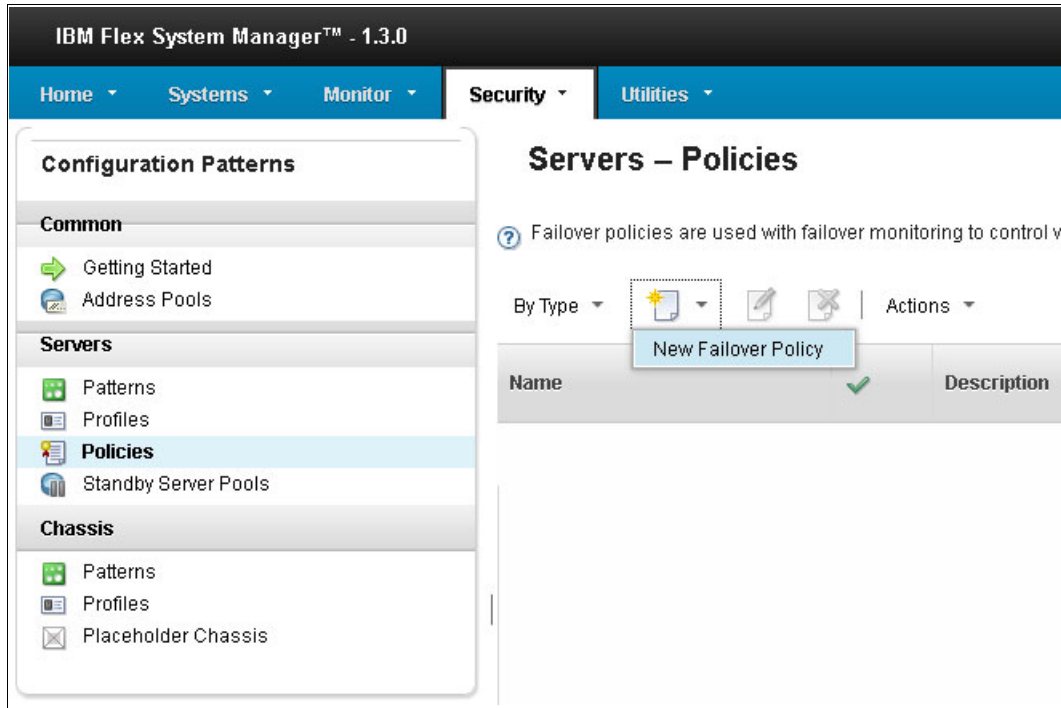

Figure 6-50 Create new failover server policy
2. Select **Systems** → **Configuration Patterns** to open the Configuration Patterns window. Within the Configuration Patterns window, on the left column under Servers heading, choose **Policies** as shown in Figure 6-50.